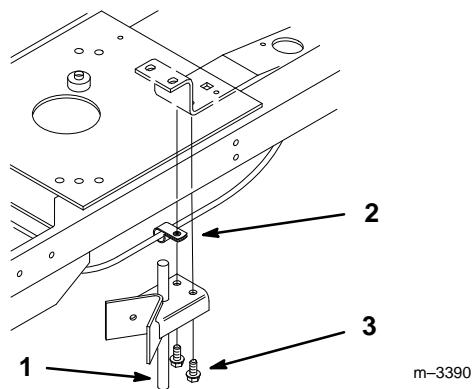

Figure 7
- Remove bolts securing existing up-stop to tractor frame (Fig. 7).
- Place J-clip, holding drain hose, against frame and mount new, long, up-stop to frame with previously removed hardware (Fig. 7).